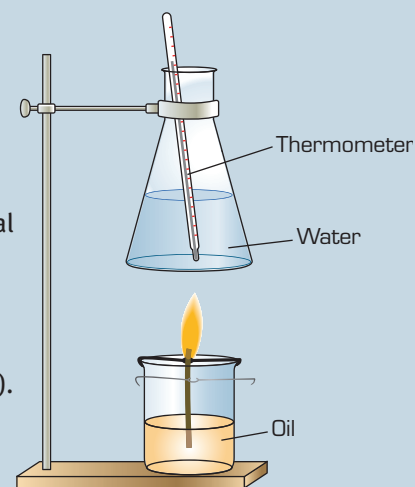

figure ef.4
- 4 Add 100 mL water to the flask and clamp it to the retort stand, ensuring that the bottom of the flask is about 1 cm above the burning wick (see figure ef.4).